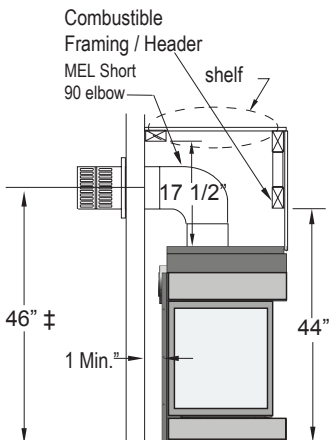

**Figure 2.** Framing dimensions.
1). Frame in the enclosure for the unit with framing materials. The framed opening for the assembled fireplace is 40 3/4" wide, x 44" high x 24 1/2" deep, see **Figure 2**.